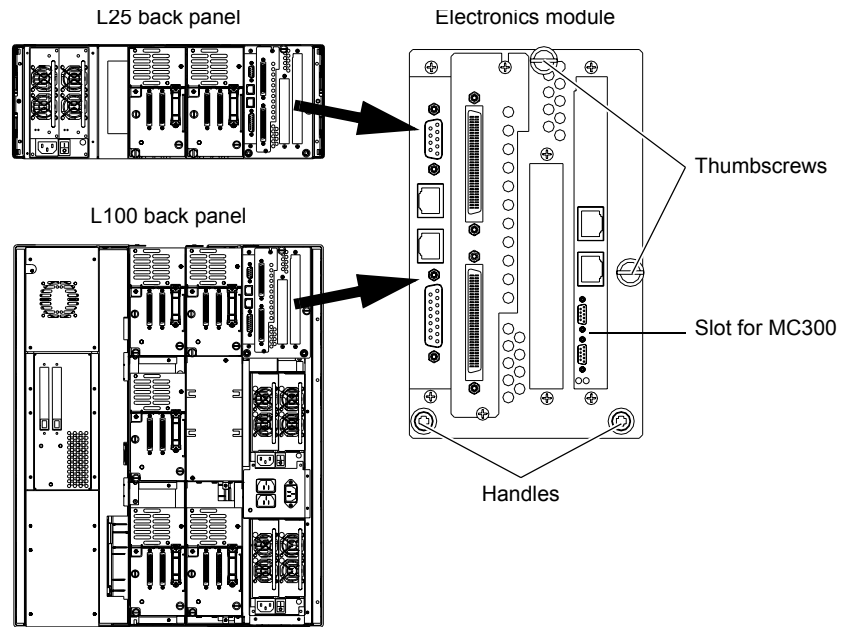

Figure 2 Removing the Electronics Module
- 3 Using a flat blade screwdriver, loosen the two large thumbscrews securing the electronics module to the back of the library (see figure 2).